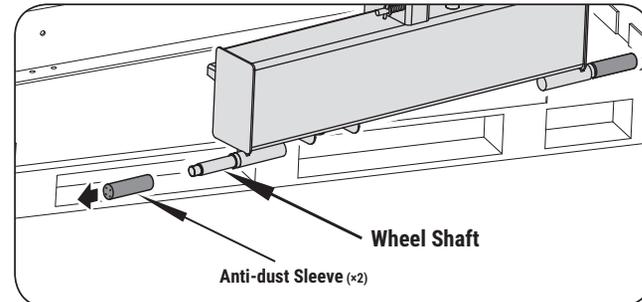

Figure 3c
3. Remove the two anti-dust sleeves from the wheel axle. (See **Figure 3c.**)